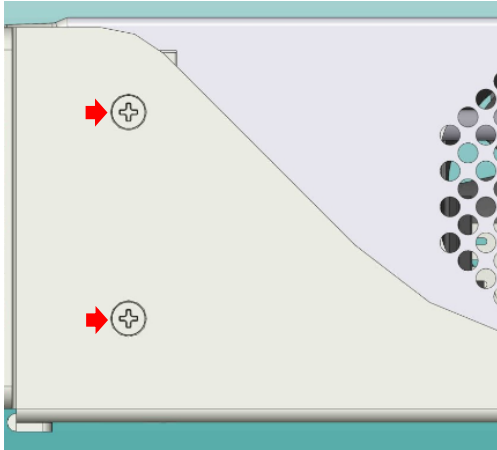
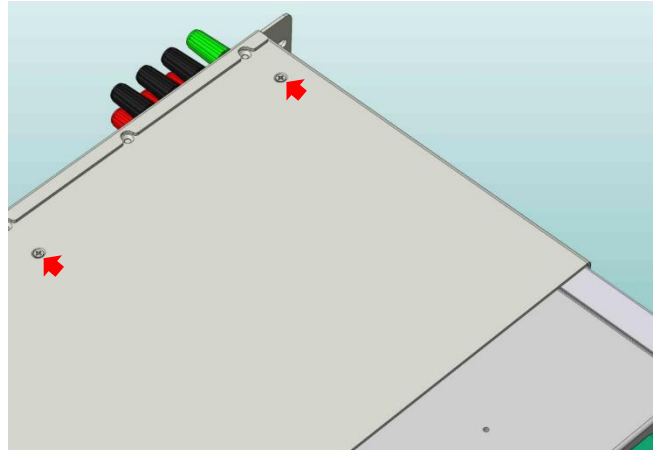

Figure 7: Side screws
Figure 8: Bottom screws
- Step 3.** Once the holes are aligned, fasten the two side screws using the provided hardware (Fig. 7). Then fasten the two bottom screws using the screws removed from the instrument in step 1 (Fig. 8). Do not tighten all of the screws until all of them are started and alignment has been checked.